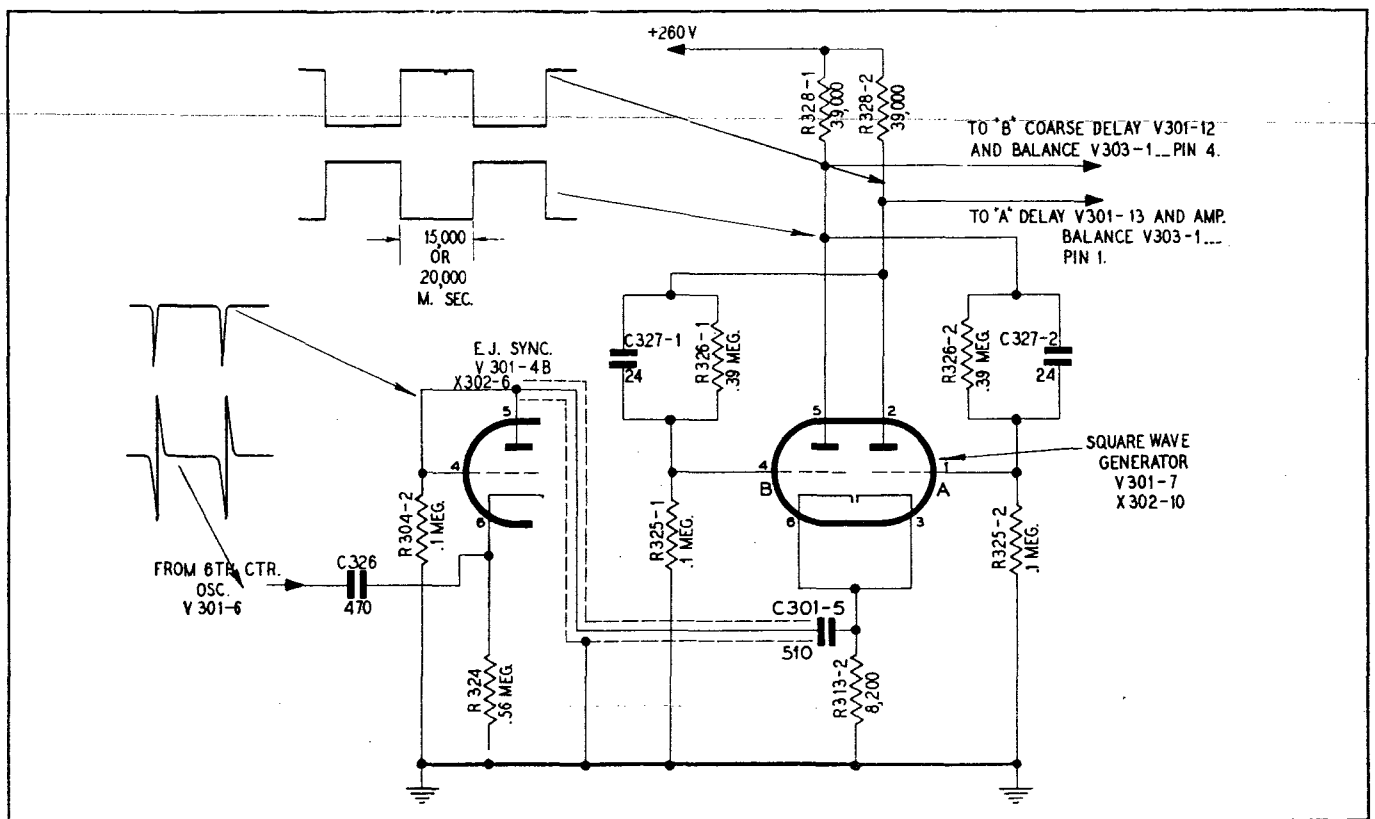

Figure 4-56. Square-Wave Generator Circuit
(4) SQUARE-WAVE GENERATOR.—The duotriode tube (V-307-1), with its associated circuit components (see fig. 4-56), constitutes a triggered oscillator whose output is essentially a square wave. This oscillator, commonly known as the Eccles-Jordan, is a modified multivibrator especially designed to require an external triggering pulse to cause a reversal of voltage levels at alter-